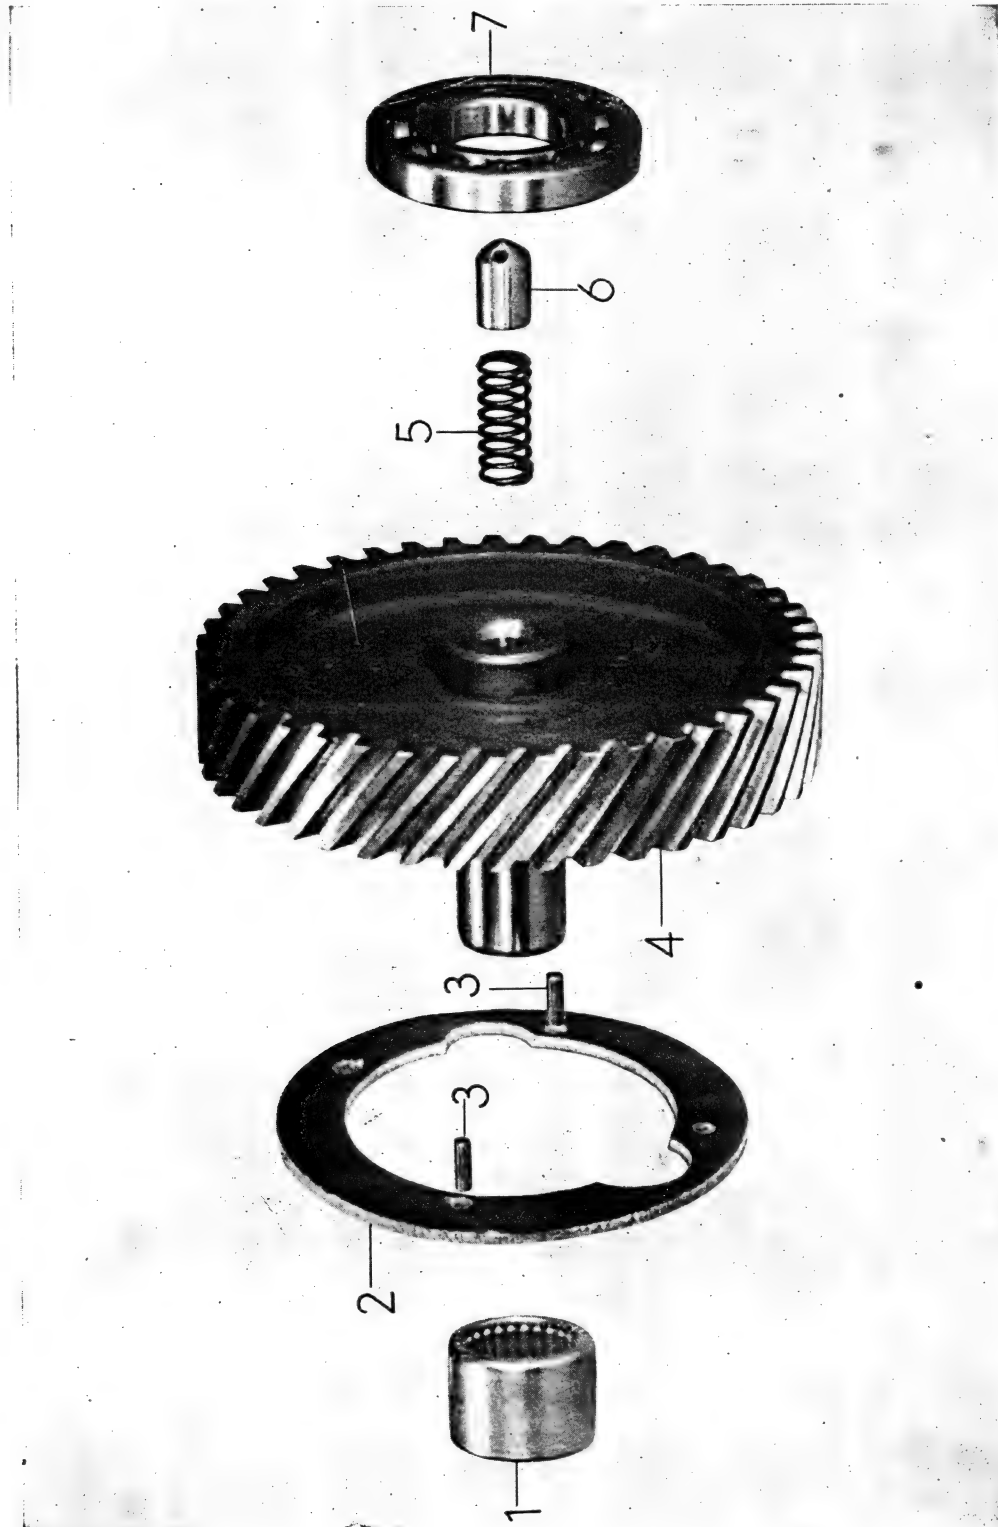

Figure 13 — Idler Gear Assembly and Parts
**IDLER GEAR ASSEMBLY AND PARTS (Fig. 13)**